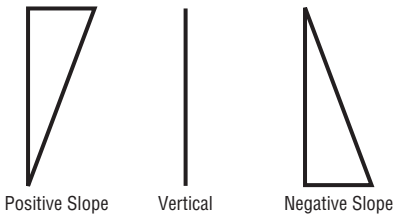

Fig. 1.7
- Identify the placement of your Angle Brace and determine the slope of the case for each corner. The way in which it curves (or not) determines if the case has a positive, negative or no slope. (Fig. 1.7) You will need this information in the next section.